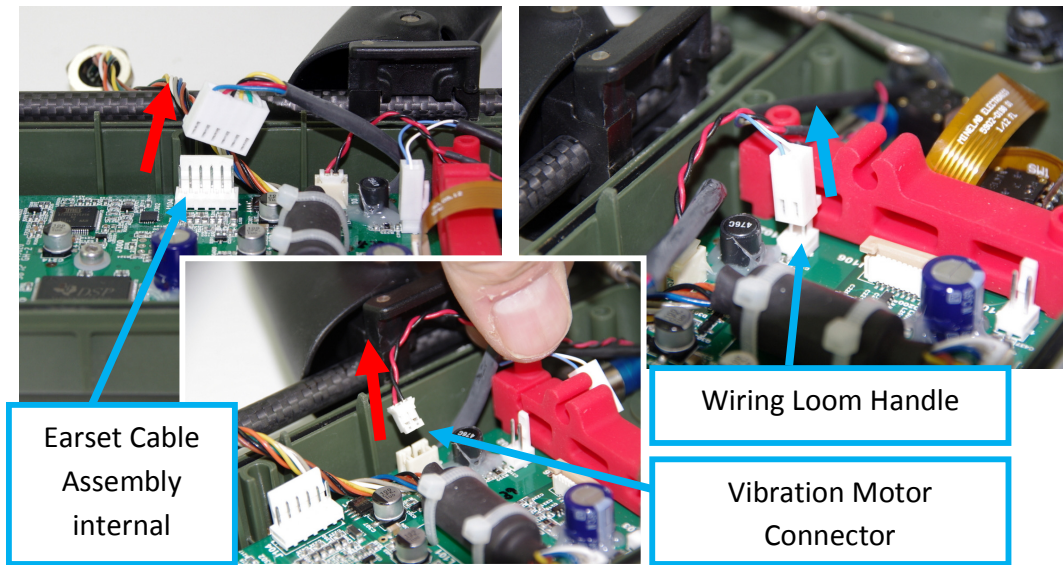

Figure 33: Disconnect Connectors on main PCB
- Disconnect the Earset cable assembly (internal) from the main PCB. Figure 33.